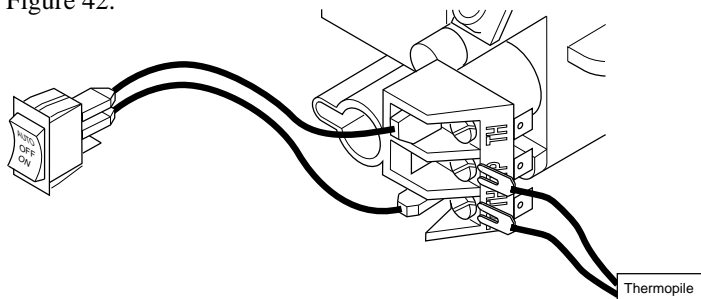

Figure 42 - Switch Wiring Diagram
**Note:** For proper operation of optional accessories, the wires from the switch to the control must be connected exactly as shown in Figure 42.